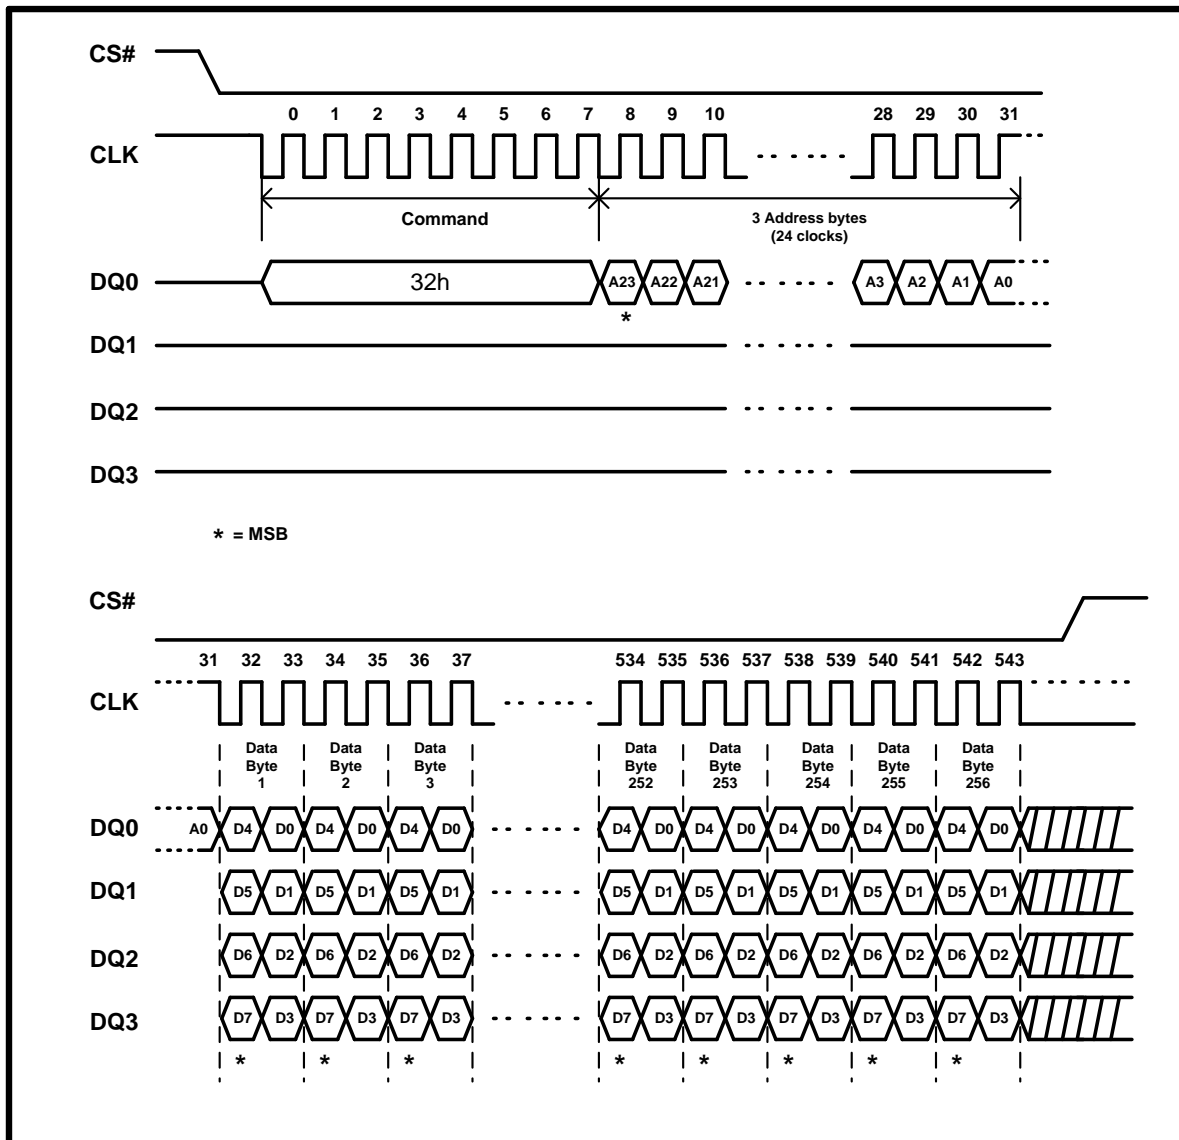

Figure 30. Quad Input Page Program Instruction Sequence Diagram (SPI Mode only)
To use Quad Page Program (QPP) the WP# and HOLD#/RESET# Disable (QE) bit in Status Register must be set to 1. A Write Enable instruction must be executed before the device will accept the Quad Page Program (QPP) instruction (SR.1, WEL=1). The instruction is initiated by driving the CS# pin low then shifting the instruction code "32h" followed by a 24-bit address (A23-A0) and at least one data byte, into the IO pins. The CS# pin must be held low for the entire length of the instruction while data is being sent to the device. All other functions of Quad Page Program (QPP) are identical to standard Page Program. The Quad Page Program (QPP) instruction sequence is shown in Figure 30.